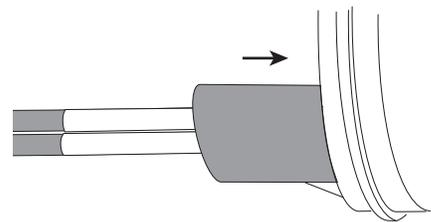

Figure 20
6. Slide the tube back onto the port, being sure that the edge of the tube butts against the closure base. (Figure 20)